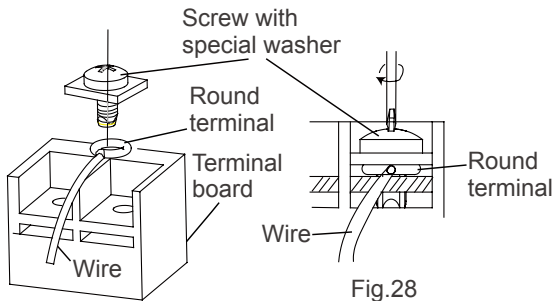

Fig.28
- Position the round terminal wire, and replace and tighten the terminal screw with a screwdriver.(Fig.28)